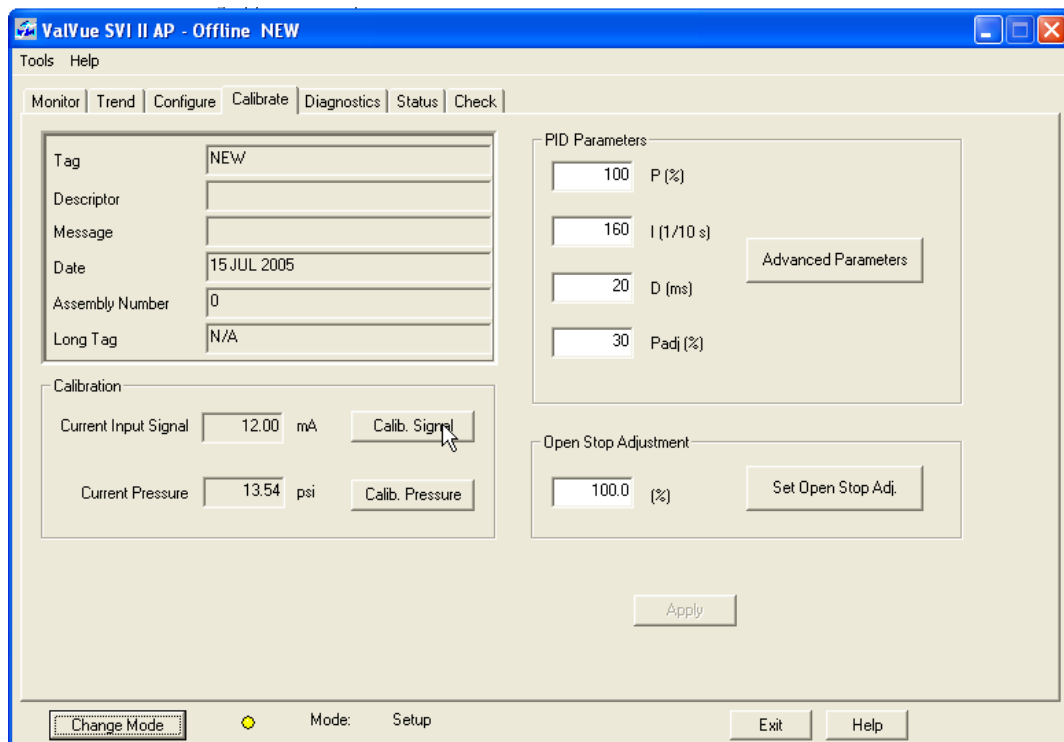

Figure 94 Starting Signal Calibration
1. Click **Calib. Signal** (Figure 94).